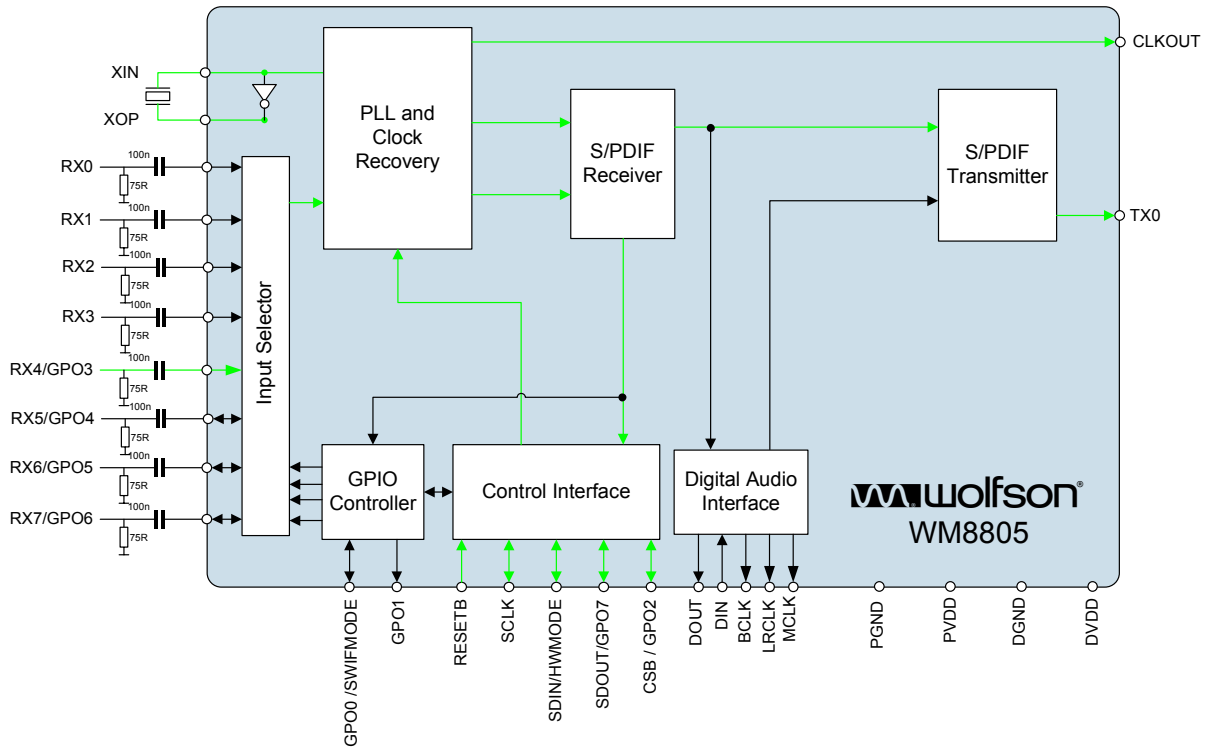

Figure 9 Rx4 to TX0 Block Diagram
- Figure 9 illustrates the data path.